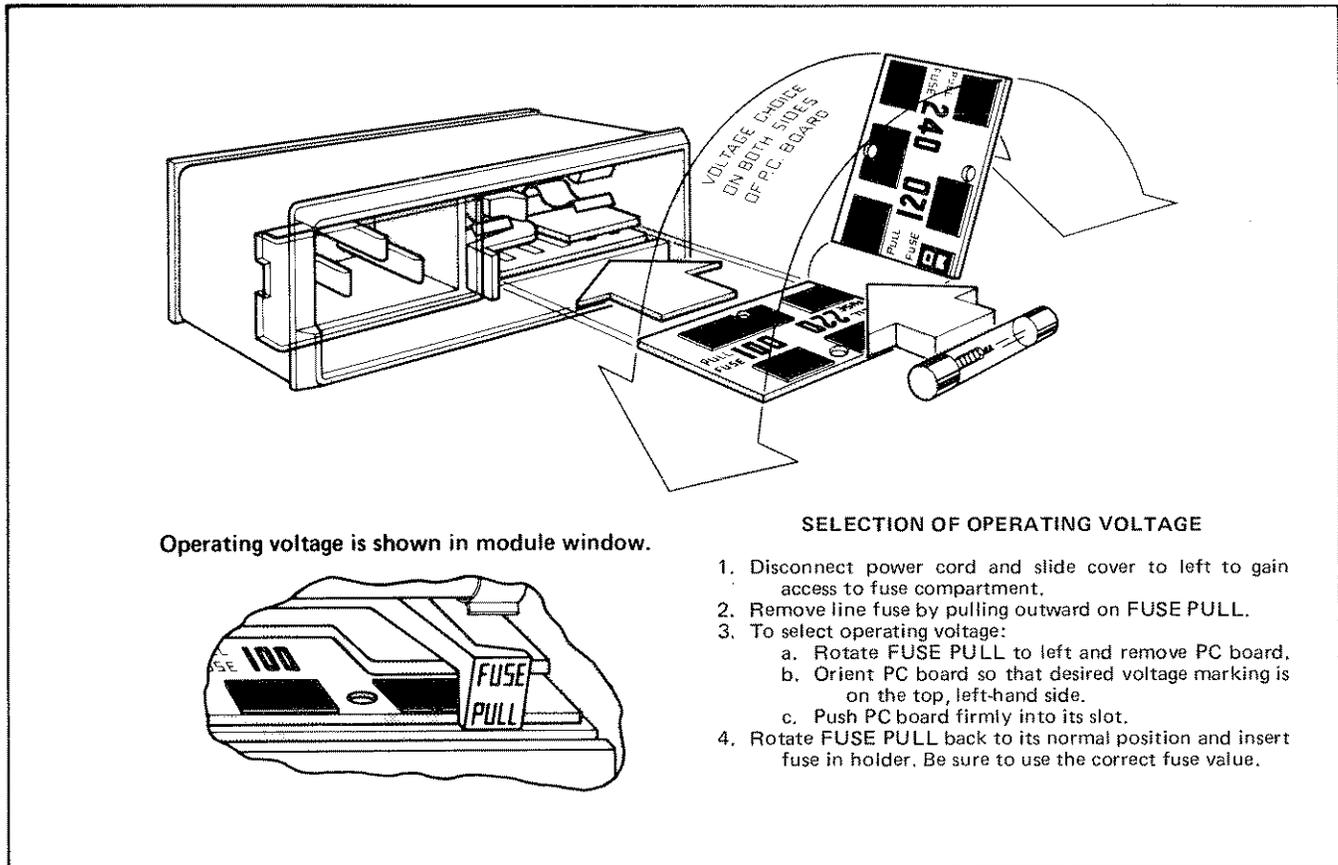

Figure 3-24. Voltage Selection.
- b. Refer to Figure 3-24 and set the 3581 for the line voltage to be used (100 V, 120 V, 220 V or 240 V). Line voltage must be within + 5% to - 10% of voltage setting.